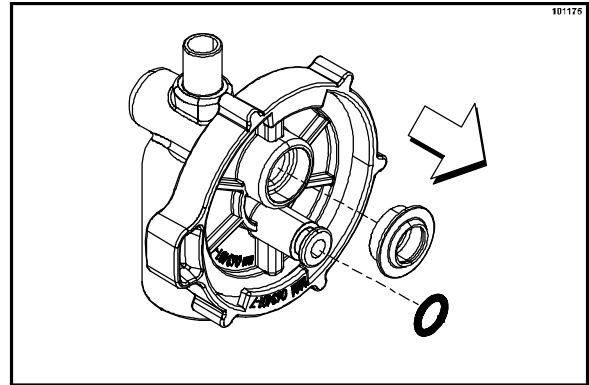

Figure 45
21. Remove the o-ring and sliding seal from the pump head. (See Figure 45.)